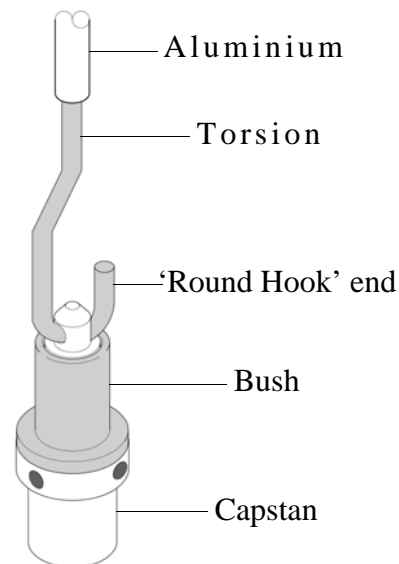

Figure 3
6. Thread the capstan, complete with the bush, over the 'round hook' end of the new torsion bar (see figure 3).